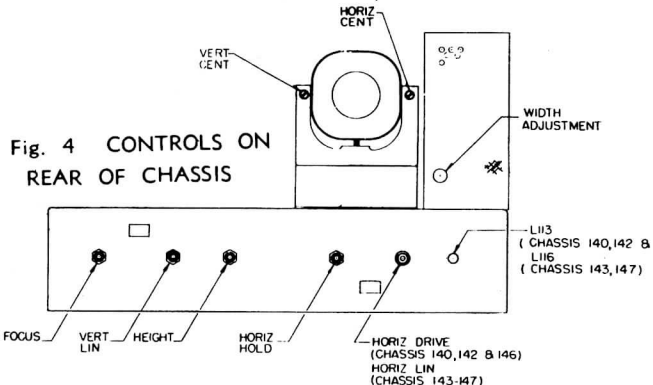

Fig. 4 CONTROLS ON REAR OF CHASSIS
- 9—If the above adjustments will not correct the horizontal sync pull-in, it is possible that L113 is misadjusted. The setting of L113 is normally fixed at from 60% to 100% of its maximum inductance and must be within this range for proper horizontal sync operation. This setting is indicated by a core stud extension of 1/2" or less (See Figure 4 for the location of L113).
On these chassis, no horizontal drive control is provided. Instead, R140 is available on the rear chassis apron as an external adjustment or horizontal linearity. The range of adjustment of linearity is varied by means of the core in L116, which is accessible through the extreme right hand opening in the rear chassis apron by removing the set back-board (see Figure 4).
Adjustment of picture width is obtained by means of the core in L112, which is available through the hole in the lower left hand rear corner of the high voltage shield can (See Figure 4). Clockwise rotation of the core slug increases picture width, and counter-clockwise rotation decreases it.